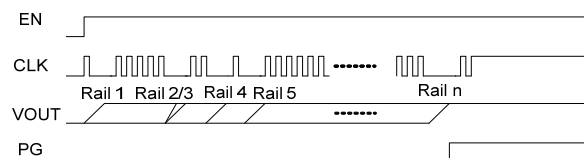
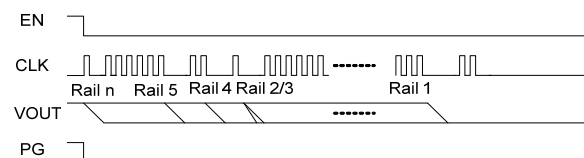
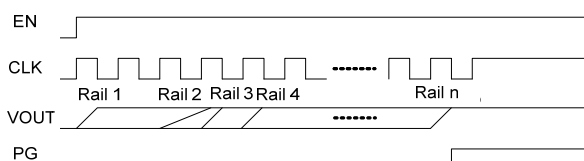
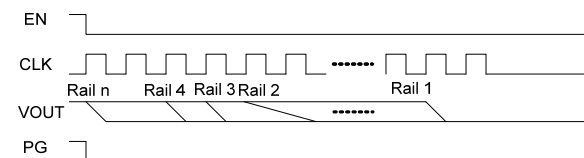

Figure 3: Soft start with CLK pausing
Figure 4: Soft stop with CLK pausing
Figure 5: Soft start without CLK pausing
Figure 6: Soft stop without CLK pausing
together for the sequence control. The CLK pins should be pulled up to any one of the VCCs via a resistor (typical 10k Ω). One PMIC is configured as the master PMIC (PMIC1 in Figure 3), which generates clock signal output on the CLK pin. Other PMICs are configured as the slave PMICs, which receives the clock signal input on the CLK pin. The power ON/OFF sequence of all the power rails are synchronized by the clock signal.
1. If the "CLK_Pause_EN" bit is "1", the master/slave PMIC pulls the CLK pin down during the soft start/stop of any power rails, as shown in Figure 3 and Figure 4. Otherwise if the "CLK_Pausing_EN" bit is "0", the master/slave PMIC does not pull the CLK pin during the soft start/stop of any power rails, as shown in Figure 5 and Figure 6.